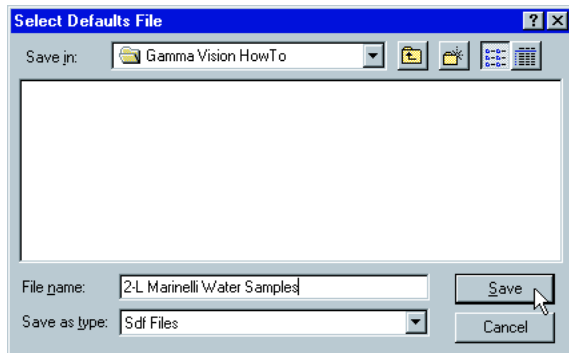

Fig. 35
2.9 Select the Sample tab. We are creating a template to use for many samples — we will save this template as an ".sdf" file that can be applied to all our analyses. Click **Save As** from the **Sample** tab, browse to the working directory, name the file and click **Save** (Fig. 35).